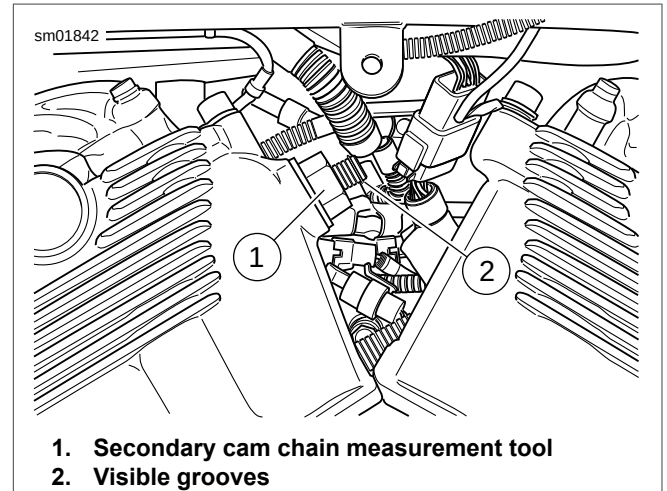

Figure 1-87. Secondary Cam Chain Measurement Tool Installed in Front Cylinder
11. See Figure 1-87. install SECONDARY CAM CHAIN MEASUREMENT TOOL. Thread-in the tool until it is seated against the cylinder head.